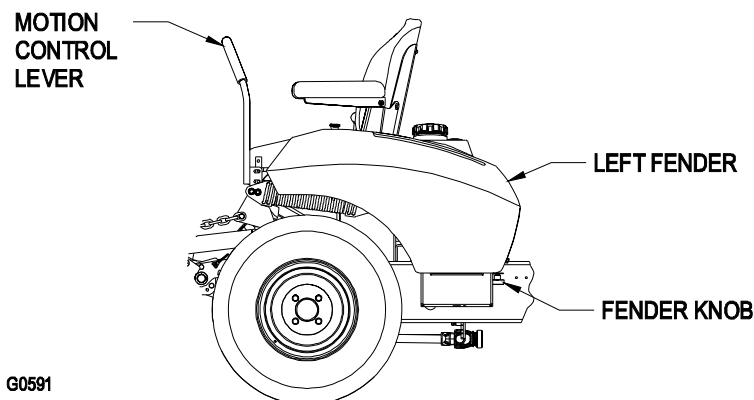

FIGURE 15
- b) Locate and loosen the knob under the rear of the left fender. See Figure 15.